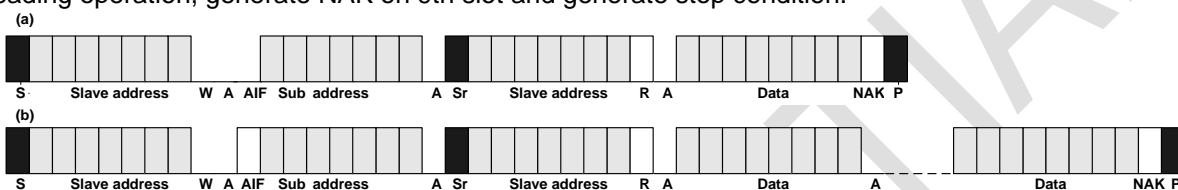

**Figure 7. Quad Byte Write Mode Sequence**
**Figure 7-(a), Figure 7-(b), and Figure 7-(c)** represent 4 byte writing operations. Coefficient Mode Register address 0x00~0x62 are used to configure Bi-Quad filter coefficients, those are BQ, power meter gain and PEQ/DRC check. The data size of these coefficients and gains is 4 byte for each. The difference between 4byte writing operation and single byte writing operation is only the size of transferring data. So, after sending “Sub address”, 4 sequential bytes must be transferred from the MSB(most significant byte) to the LSB(least significant byte) sequence. The type presented on **Figure 7-(c)** is quad byte write operation under address auto increment mode, AIF function. Please compare the data transfer size between **Figure 6** and **Figure 7**.